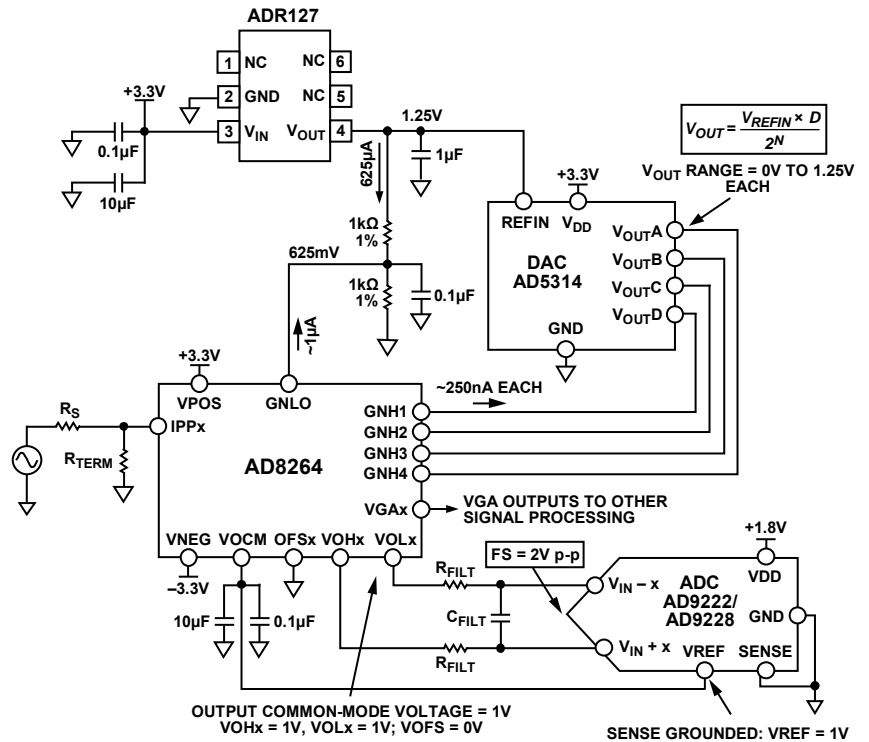
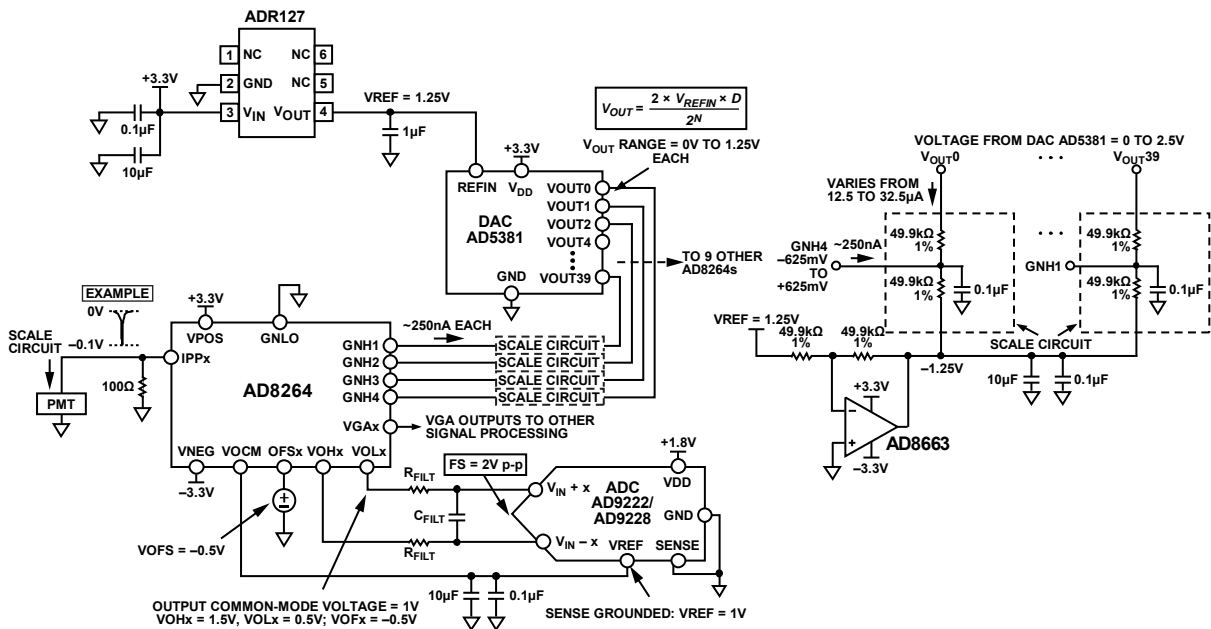

Figure 112. Application Concept of the AD8264 with the AD5314 10-Bit DAC and the AD9222/AD9228 12-Bit ADC
Figure 113. Concept Application of AD8264 with 40-Channel AD5381 12-Bit, 3 V DAC and AD9222/AD9228 12-Bit ADC
The AD8264 is particularly well suited for use in the analog front end of medical PET imaging systems. Figure 112 shows how to use the AD8264 with the AD5314 (a 4-channel, 10-bit DAC) and the AD9222/AD9228 (an octal or quad, 12-bit ADC, respectively). The DAC sets the gain of the AD8264. Note that the full gain span of 24 dB is achieved with this setup because the gain control input range of the AD8264 is very close to 1.25 V. The GNLO pin must offset by 1.25/2 = 625 mV because the gain control input is bipolar around the voltage applied at GNLO. This is done with two 1 kΩ, 1% resistors. The approximately 1 μA of bias current flowing from the GNLO pin does not contribute a significant error because the basic gain error of the AD8264 is the limiting factor.
Figure 112 also includes the DAC output equation, which indicates that the output can vary between 0 V and VREF = 1.25 V.
The single-ended-to-differential amplifier of the AD8264 amplifies the VGA output signal by 6 dB and can provide the required dc bias of the AD9222/AD9228, as shown in Figure 112. The ADC is connected with the default internal reference because the SENSE pin is grounded. With this connection, the AD9222/AD9228 VREF pin is an output that provides 1 V; this is then connected to the VOXM input of the AD8264, which sets the output common-mode voltage of the VOHx and VOLx pins to 1 V. This voltage is very close to the recommended optimal value of VDD/2 = 0.9 V. With this configuration, the ADC inputs are set to a full-scale (FS) of 2 V p-p.
The dc connected concept example in Figure 113 is an application with the 40-channel AD5381, 3 V, 12-bit DAC. The main difference between this example and Figure 112 is that, for the same ADR127 1.25 V reference, the full-scale output of the DAC is from 0 V to $2 \times V_{REFIN} = 2.5$ V. Two options for gain control include the following:
- Use the same circuit as in Figure 112 but use only half the DAC output voltage from 0 V to 1.25 V. This is the simplest solution, requiring the fewest extra components. Note that the overall gain resolution increases by one bit to 11 bits over the 10-bit AD5314.
- Ground GNLO and scale the DAC output so that the GNHx inputs vary from -0.652 V to $+0.625$ V. Figure 113 shows a possible circuit implementation using a divider between the DAC output and a -1.25 V reference.
Figure 113 shows how the AD8264 is connected in a PET application. The PMT generates a negative-going current pulse that results in a voltage pulse at the preamplifier input and a differential output pulse on VOLx and VOHx.
A convenient method of verifying and customizing the signal chains shown in Figure 112 and Figure 113 is by ordering the corresponding evaluation boards available on www.analog.com. The AD8264-EVALZ is a platform through which the user can quickly become familiar with the features and performance capabilities of the AD8264. See the Evaluation Board section for more information.